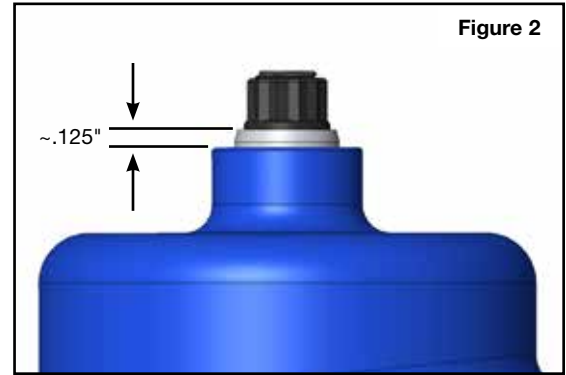
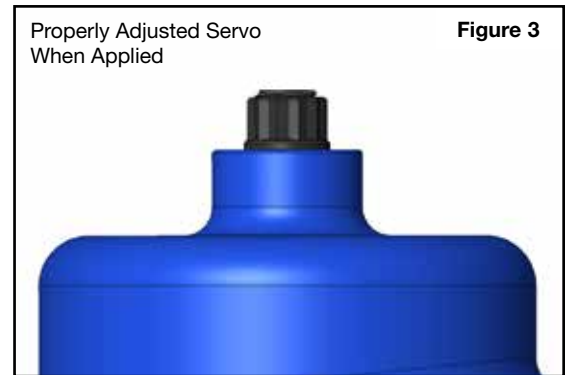

Figure 2
Figure 3
- e. Air test the servo or push on the end of the pin to cycle the servo piston. When the servo is properly adjusted and applied, the protruding portion of the piston (**Figure 2**) should be close to flush with the snout on the cover (**Figure 3**).